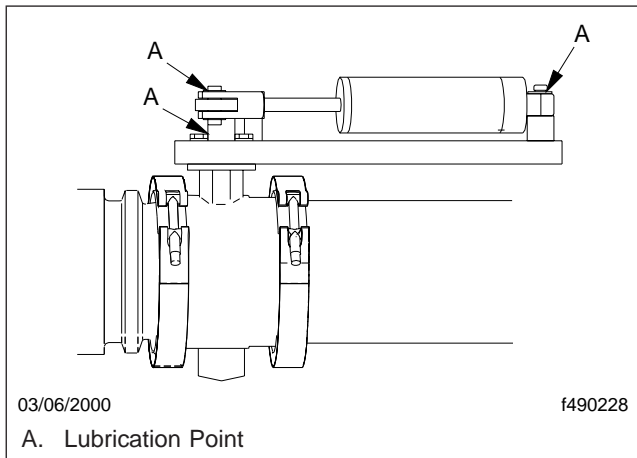

Fig. 7.20, Pacbrake Exhaust Brake and Air Cylinder
1. With the engine shut down, use any oil-free or nonpetroleum-based high-heat lubricant, and spray or coat a sufficient amount on the restricter valve shaft and the attaching locations at each end of the actuation cylinder. See Fig. 7.20.